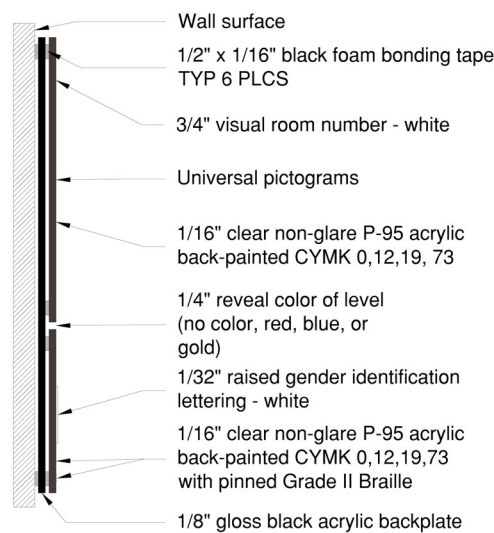

Figure 15.11
- 15.11. UMD D1 sign cross section shall comply with figure 15.11.